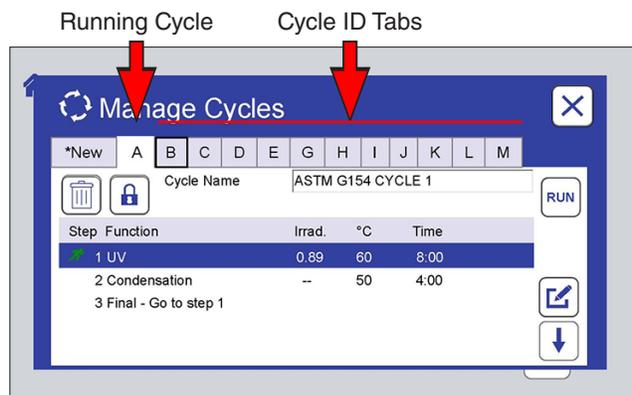

Figure 11.7.8f: Touch another cycle ID tab to switch to a different cycle from the one currently running.
- Touch another cycle ID tab to run to a different test cycle from the one currently running (Figure 11.7.8f).